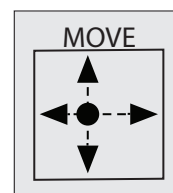

Fig. 23
1. Scroll to the "MOVE" function screen located on the CubeX control panel. (Fig. 23)